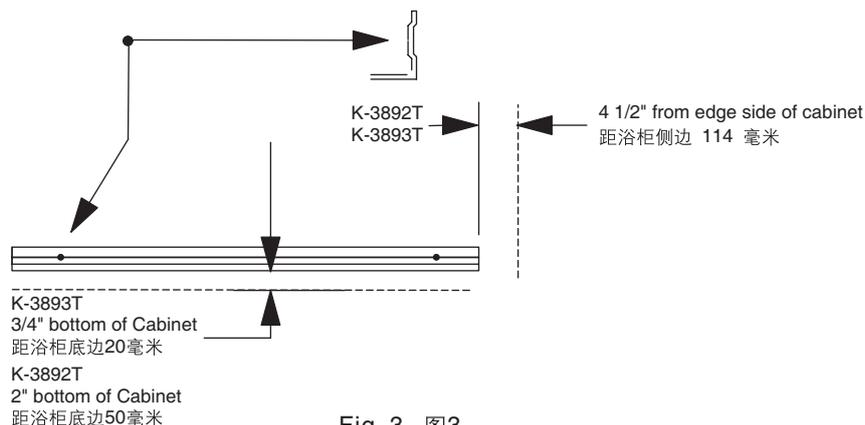
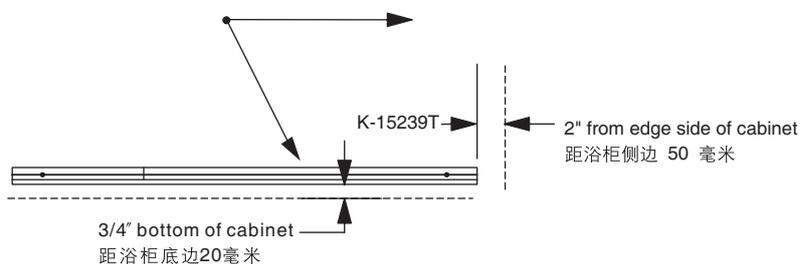

Fig. 3 图3
Fig. 4 图4
3) Drill 1/4 hole in wall for mounting bar anchors at locations shown in Fig.3.(If you do not use the anchor, drill a 3/32 pilot hole.) After the holes are drilled, fit the mounting bar of the single door onto wall by referring to Fig.3 and fit the mounting bar of the double door onto wall by referring to Fig.4.
3) 如图3承托条所示位置在墙壁上钻7毫米的孔再上爆炸胶钉(如果您不用爆炸胶钉, 钻2毫米大小的孔。)钻好孔后, 参照图3的尺寸装好单门浴柜承托条, 参照图4的尺寸装好双门浴柜承托条。